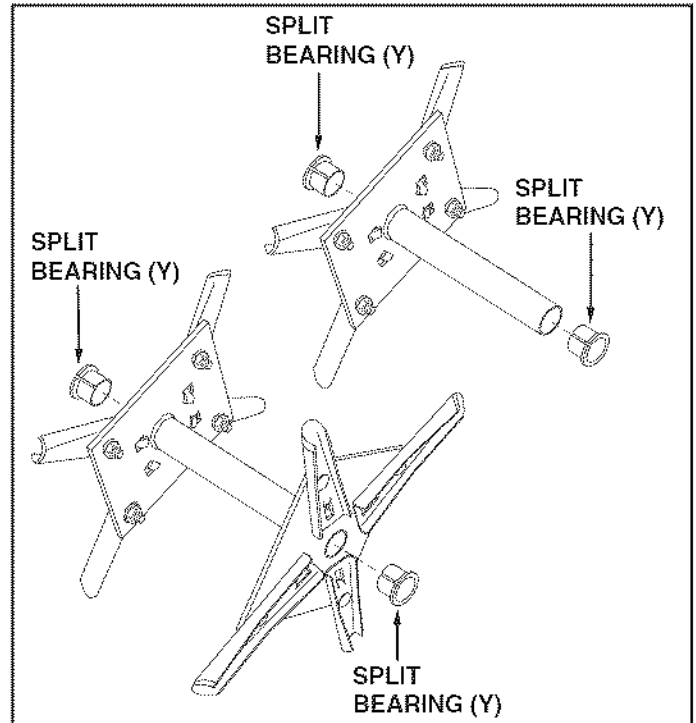

FIGURE 2
- Push split plastic bearings (Y) into both ends of all single and double spool assemblies. See figure 2.